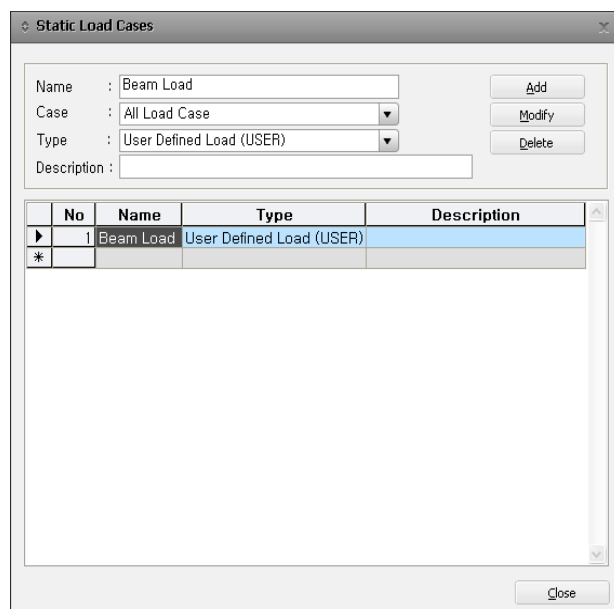

Figure 3.17 Load Cases
3. Enter the contents shown in Fig.3.17 in the **Static Load Cases** dialog box.